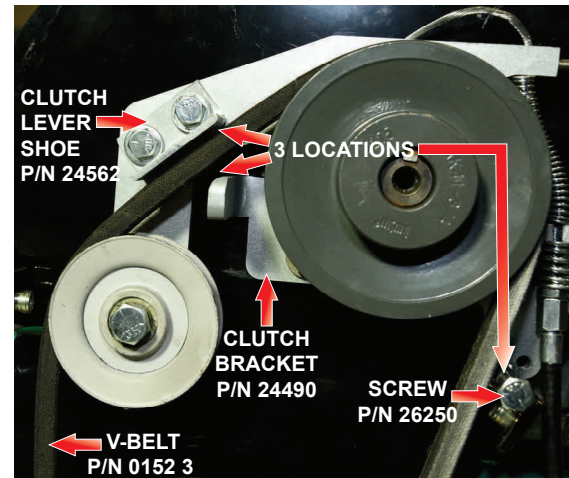

Figure 40. V-Belt Inspection
5. Inspect the V-belt (P/N 0152 3). With the clutch control hand lever (P/N 391512) **disengaged**, the V-belt should contact the clutch lever shoe (P/N 24562), the arm of the clutch bracket (P/N 24490), and the screw (P/N 26250) at the bottom of the clutch bracket. With the clutch control hand lever **engaged**, there should be between 1/4-inch (6 mm) and 3/8-inch (9 mm) clearance in these three locations. See Figure 40.